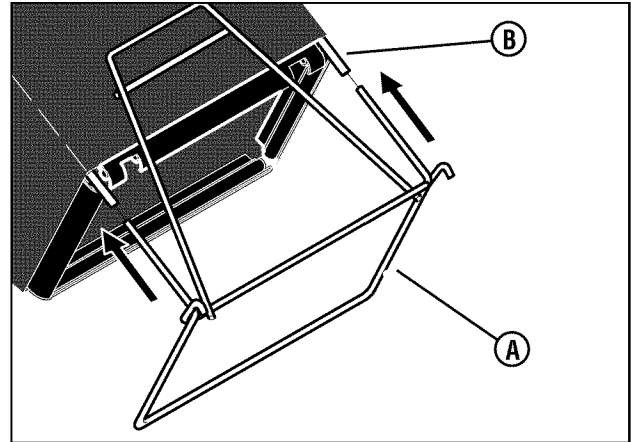

Figure 5: Installing the frame assembly
1. Slide the frame assembly (**A, Figure 5**) into the ends of the support tube (**B**). Make sure the frame assembly is fully inserted into the support tube.